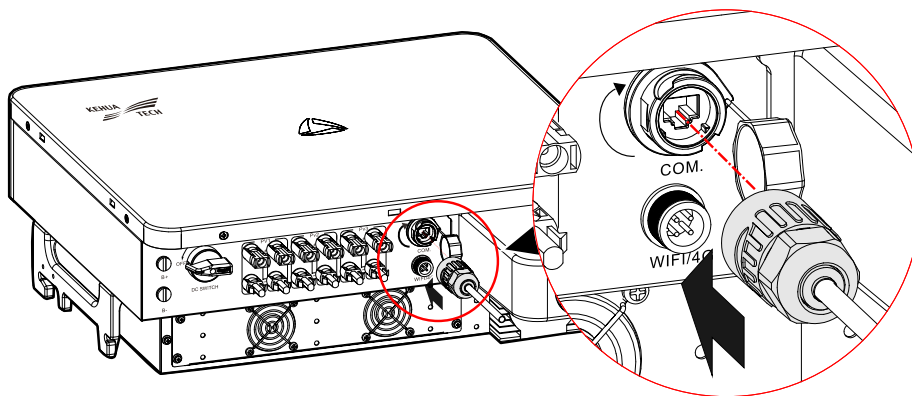

Figure3-32 Install the COM. interface
Step 3 Loosen the waterproof cover on the COM. interface, insert the RJ45 connector to the COM. interface (as shown in Figure3-32) and fasten it.